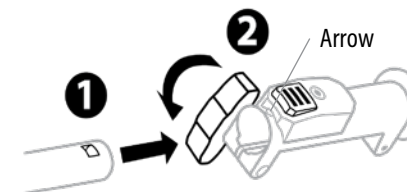

Fig. 3B
3. Align the installation hole on the attachment shaft with the arrow on the powerhead shaft. Ensure the desired installation hole is aligned with the shaft release button, and push the attachment shaft into the powerhead shaft until you hear a "click" sound, which means that the attachment shaft is mounted into place. You may need to rotate the tool relative to the powerhead from left to right until it clicks into position. (Fig. 3B)